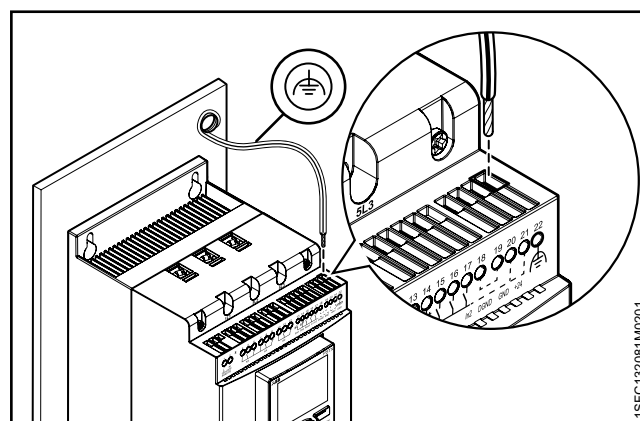

Figure 2.4
5. Connect the functional ground (terminal 22), to a ground point close to the softstarter, see **Figure 2.4**.